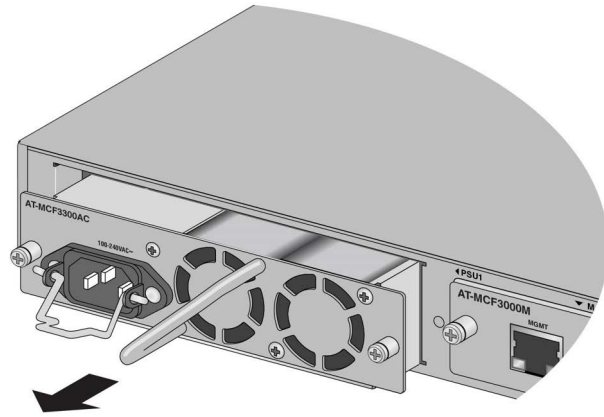

Figure 74. Pulling on the Handle to Disconnect the MCF3300AC Power Supply from the Chassis
5. Pull on the handle to disconnect the power supply from the backplane connector inside the chassis. Refer to Figure 74 on page 113.